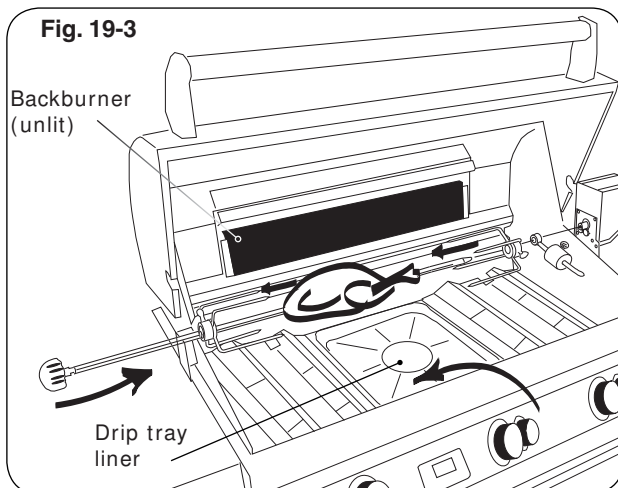

Fig. 19-3
4. Slide the left meat holder onto the rod (and tighten), the meat onto the rod and into the holder, followed by the right meat holder onto the rod and into the meat as shown in Fig. 19-3. Tighten the right meat holder. Be sure the meat is centered and balanced as well as possible.
11. To keep drippings off the burners and simplify cleanup, place Fire Magic® drip tray liners under the meat, if desired (Fig. 19-3).